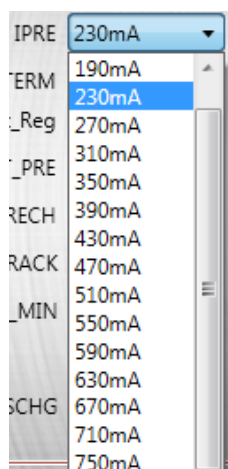

Figure 9: Pre-Charge Current Setting
7. Set the pre-charge current (see Figure 9). Its range is 150mA to 750mA, and the default value is 230mA.